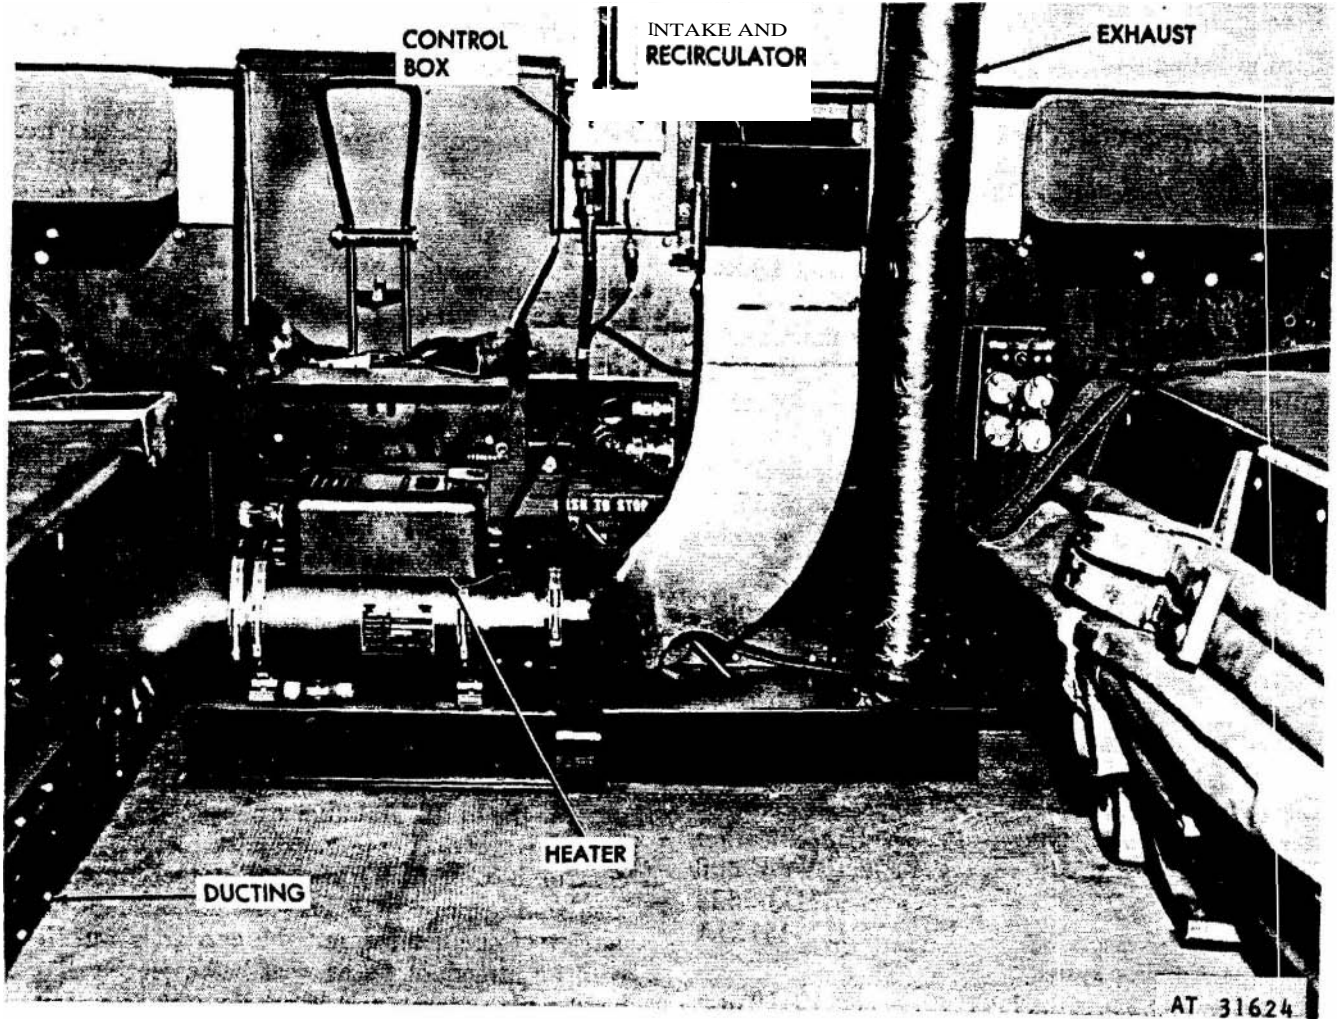

Figure 1-5. M792 ambulance, carrier personnel heater.
(1) The personnel heater (fig 1-5) is damped to a mount which is bolted to the floor at the forward end of the carrier. Exhaust gases are expelled from the bottom of the heater through an exhaust pipe that extends toward the right side of the carrier and then rises vertically and exits through the canopy top. The exhaust pipe is provided with a heat shroud along its entire length